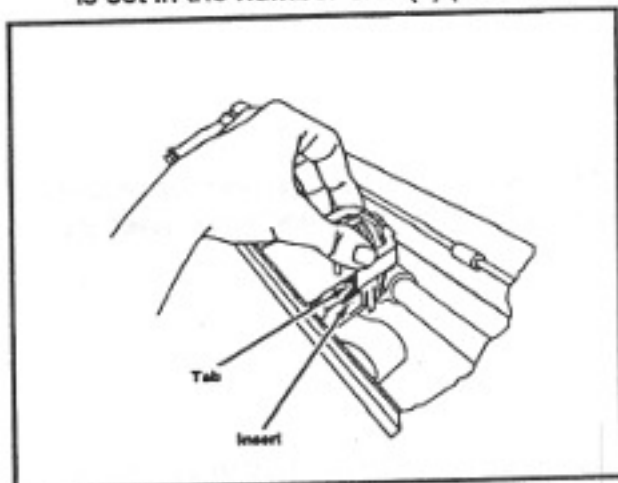

FIGURE 61. Press gently on the Cartridge.
6. Press gently on the cartridge until it snaps into place (Figure 61).